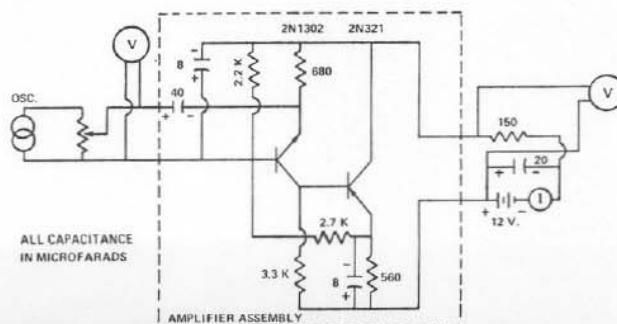

Figure 3 - Test Setup
7. **Test Procedure:** (See Figure 3)
9. **Check of Microphone Output:** The best procedure for testing the microphone is to compare its output with one known to be operating properly, using the test set-up as shown in Figure 3.